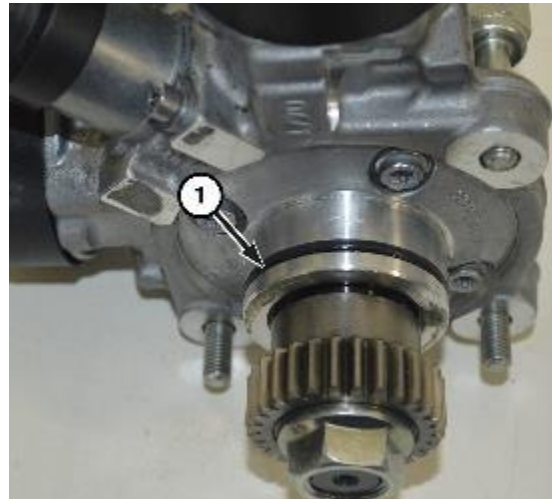

Figure 40 – HPFP O-ring
59. Install the fuel injector return line (1) to the main low pressure return line (2) (Figure 40).